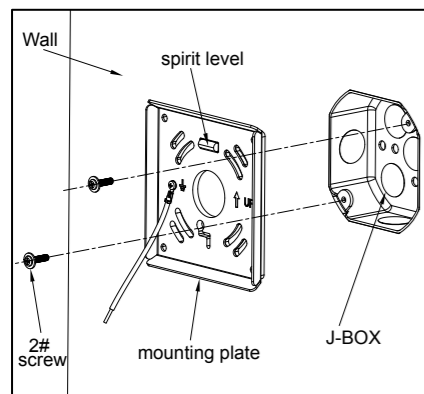

Figure 4
1. Fix the mounting plate on the J-BOX on the wall with 2# (8-32) screws, and use the level gauge on the mounting plate to ensure that the installation is in a horizontal state; (Figure 4)